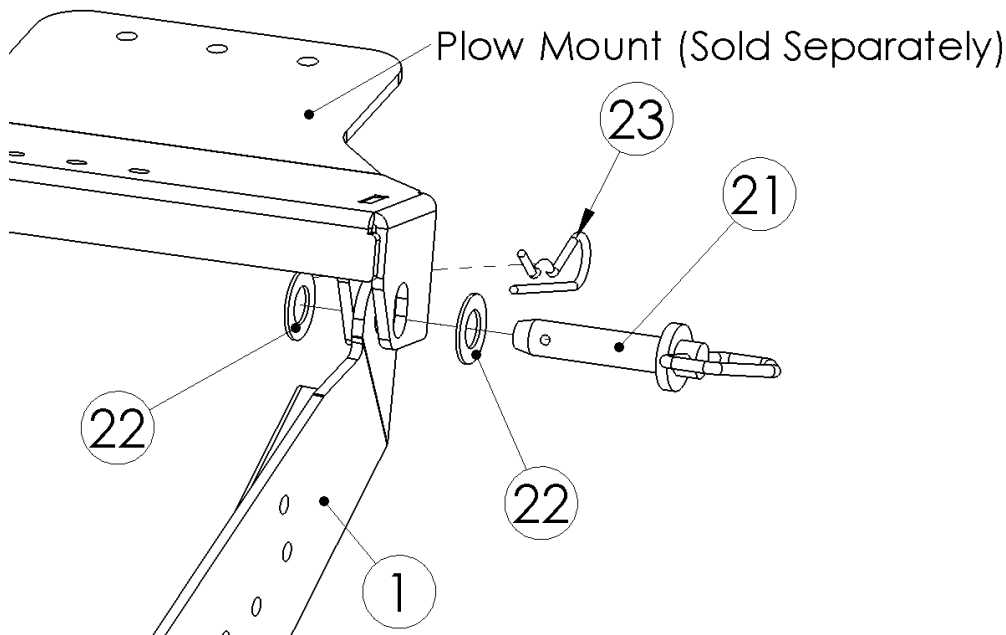

Figure 11
- 11) Attach the Plow System to the Plow Mount (Sold and installed separately) using the 5/8" Quick Release Pins, 5/8" Flat Washers and R-Clips as shown in **Figure 11**.